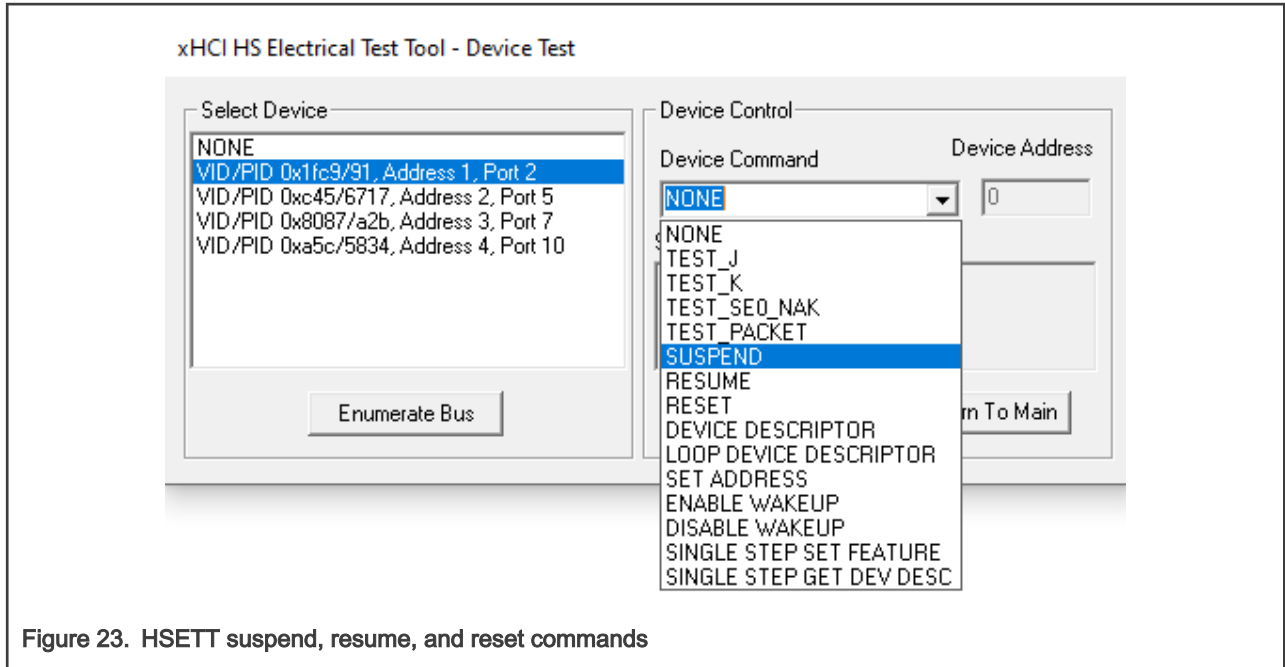

Figure 23. HSETT suspend, resume, and reset commands
- As shown in Figure 23, select the DUT and **SUSPEND** from the **Device Command** drop-down menu. Click **EXECUTE** once to place the device into suspend. The waveform that the oscilloscope catches is similar to the waveform prompted in the automated test software. Click **OK**.